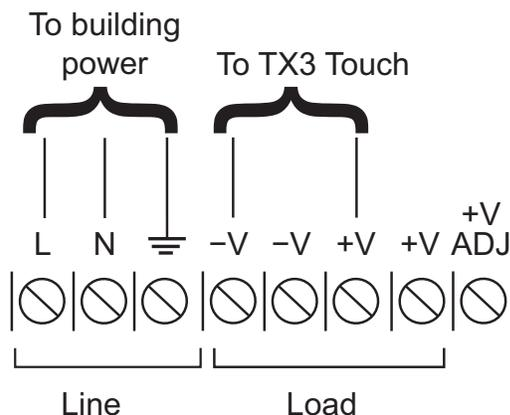

Figure 54. TX3-PS24-5A terminal block wiring
The power supply terminals are located at the bottom of the TX3-PS24-5A external power supply as shown in Figure 54.
4. Connect the other end of the load power supply wires to the **Load** terminal screws as shown in Figure 54.
5. Connect the building power supply wires to the **Line** terminal screws as shown in Figure 54.